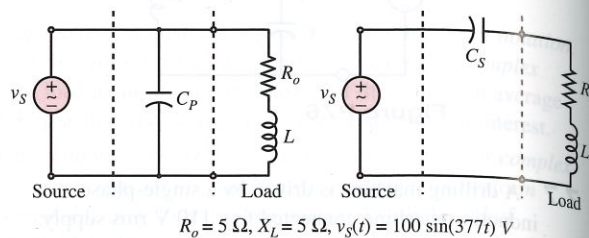

Figure P7.19
7.19 The networks seen by the voltage sources in Figure P7.19 have unity power factor. Determine C_P and C_S .